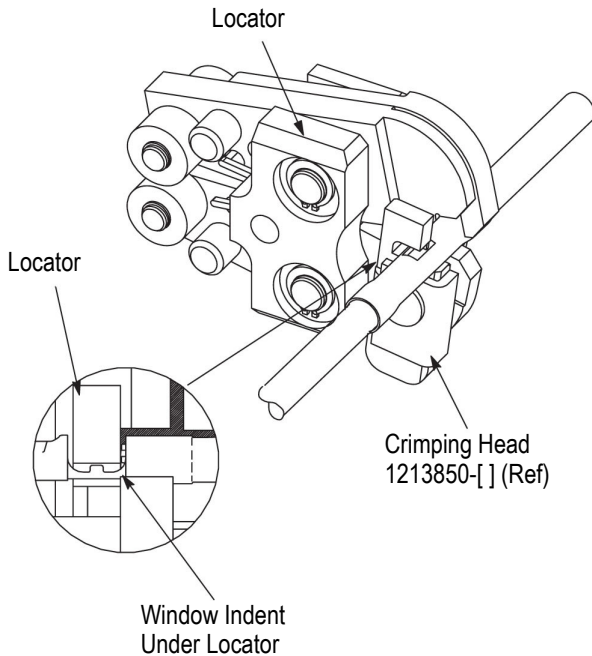

Figure 4
2. Open the crimping jaws by squeezing the rollers together simultaneously. Position the splice between the crimping jaws so that the window indent of the splice slides under the locator of the crimping head. See Figure 4, Detail A. For best results, when brazed seam on the splice is visible, position the seam toward the “W” shaped jaw.
3. Insert the stripped wire into the wire barrel until the end of the conductor is positioned against the splice wire stop. See Figure 4, Detail A.
5. To crimp the other half of the splice, reposition uncrimped half in the crimping jaws. Repeat Steps 1 through 4 to complete the crimp. See Figure 4, Detail B.